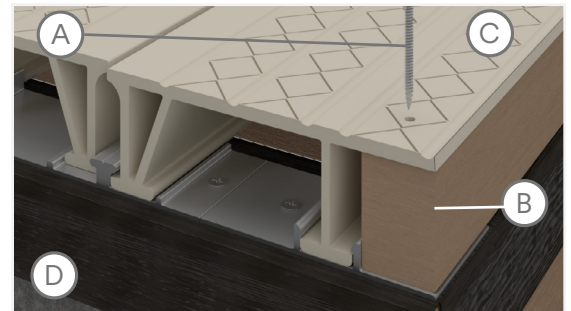

Fig. 13
- Using stainless steel #8 screws, fasten the DockDeck board to the support structure through the treated wood strip/block (Fig. 13).